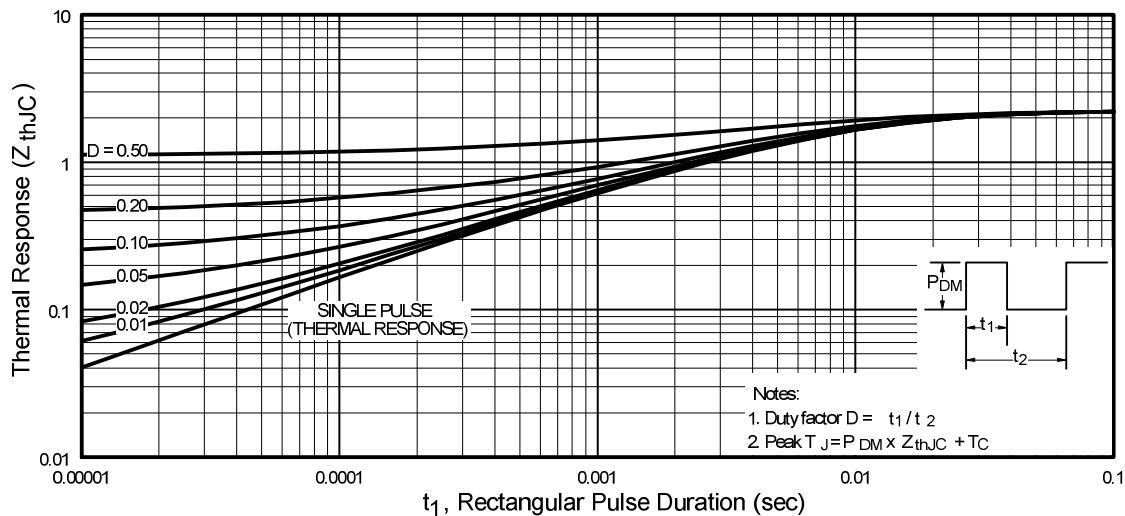

Fig 11. Maximum Effective Transient Thermal Impedance, Junction-to-Case
① Repetitive rating; pulse width limited by max. junction temperature. (See fig. 11)
③ $I_{SD} \leq 20\text{A}$, $di/dt \leq 140\text{A}/\mu\text{s}$, $V_{DD} \leq V_{(\text{BR})\text{DSS}}$, $T_J \leq 175^\circ\text{C}$